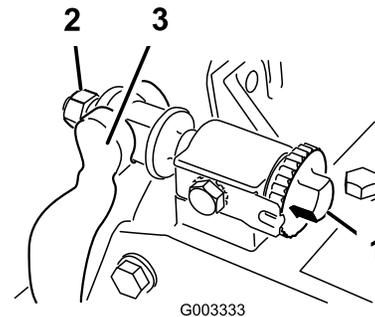

Figure 65
1. Turn the bedbar adjuster screw, counterclockwise, to back the bedknife away from reel (Figure 65).